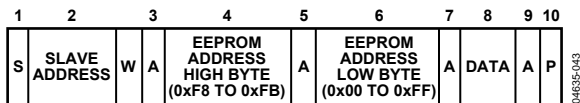

Figure 37. Single Byte Write to EEPROM
- To write a single byte of data to EEPROM. In this case, the command byte is the high byte of the EEPROM address from 0xF8 to 0xFB. The first data byte is the low byte of the EEPROM address, and the second data byte is the actual data, as shown in Figure 37.